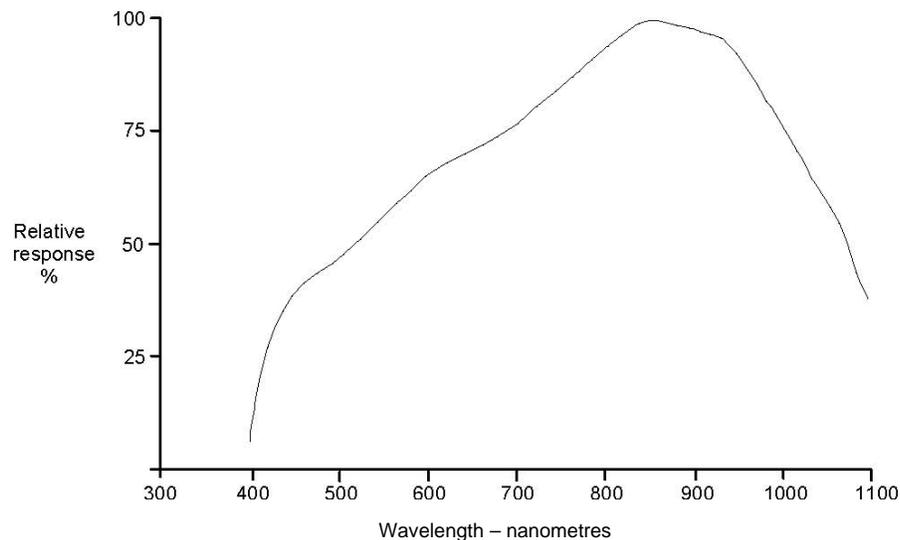

Figure 1 Typical Spectral Response of SP1110
- Sensitive to light between 350nm and 1100nm (see Figure 1)